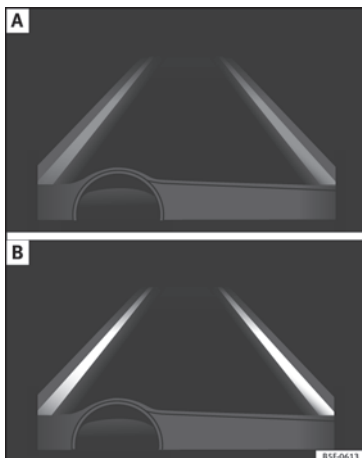

Fig. 162 On the instrument panel display: Indication on the Lane Assist system display (example 1).
- The system is active, but not available, either because the minimum speed has not been reached or because the lane lines are not recognised » **Fig. 162 A.**
- The system is active and available, both lane lines are recognised. The steering angle is not being corrected at this moment » **Fig. 162 B.**